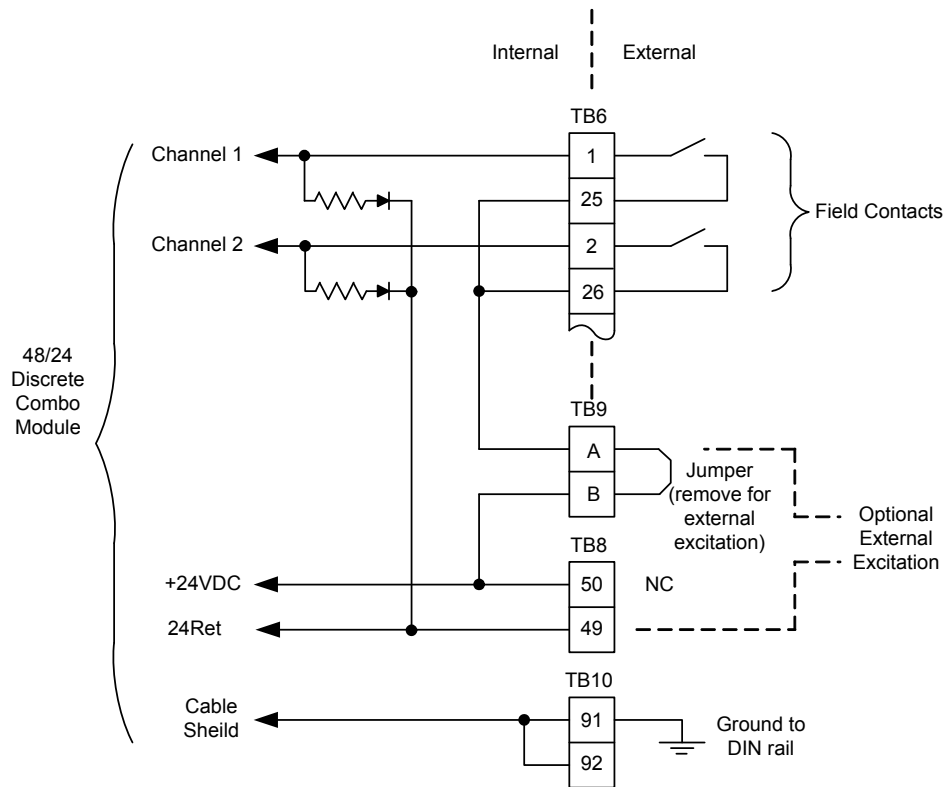

Figure 8-8—Discrete Input Interface Wiring to a 24/12 Discrete FTM
Each 24/12 Discrete FTM accepts 24 contact inputs. The 24/12 Discrete FTM may supply contact wetting voltage. Optionally, an external 18–32 Vdc power source can be used to source the circuit wetting voltage. If the 24 Vdc internal power source is used for contact wetting, a jumper is required between FTM terminals on TB9. If an external power source is used for contact wetting, the external source's common must be connected to the FTM's discrete input common, terminal 49 (see Figure 8-8).
- If the internal 24 Vdc is used, a jumper must be added to tie the internal 24 Vdc to the bussed power terminal blocks (see Figure 8-8).
- If an external 24 Vdc is used, the common for the external 24 Vdc must be tied to the discrete input common (see Figure 8-8). Power for contacts must be supplied by the control's power supplies, or the external power supply outputs must be rated to Class II at 30 Vdc or less and outputs must be fused with appropriately sized fuses (a maximum current rating of  $100/V$ , where  $V$  is the supply's rated voltage, or 5 A, whichever is less).